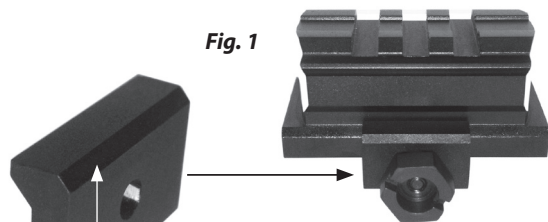

Fig. 1
2. Insure that the tapered clamp on the riser is oriented with the chamfered (beveled) end of the clamp at the top (*Fig. 1*).